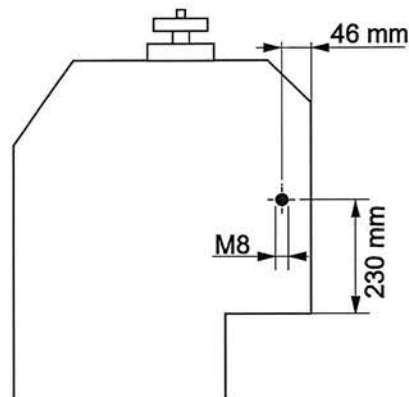

Fig. 3: EXAKT 310 mounting hole
3. Slightly tighten the clamping screw (2).
5. Turn the holder (3) until the laser beam hits the cutting band. Manually tighten the lock nut in this position.
6. Saw an approx. 8 – 9 cm slit in the slide (see Figure 3).